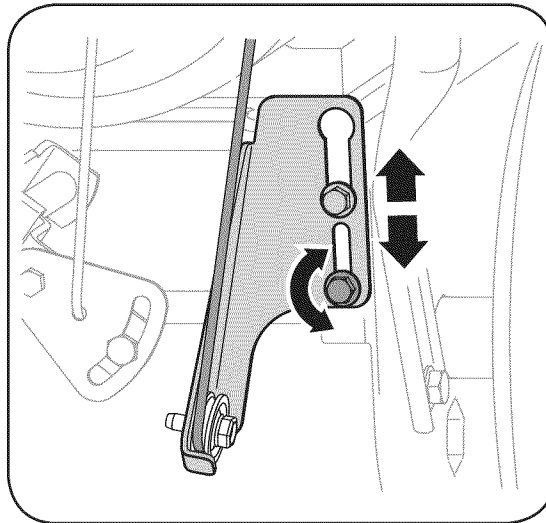

Figure 6
5. Loosen the lower hex nut on the drive cable bracket. See Figure 6.